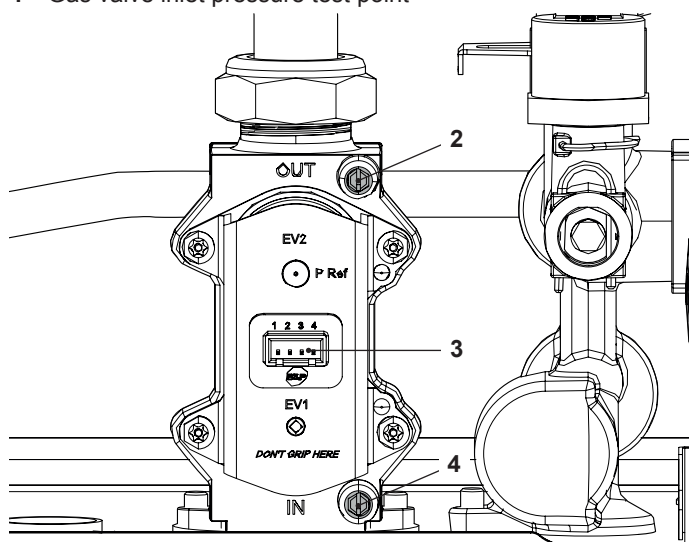
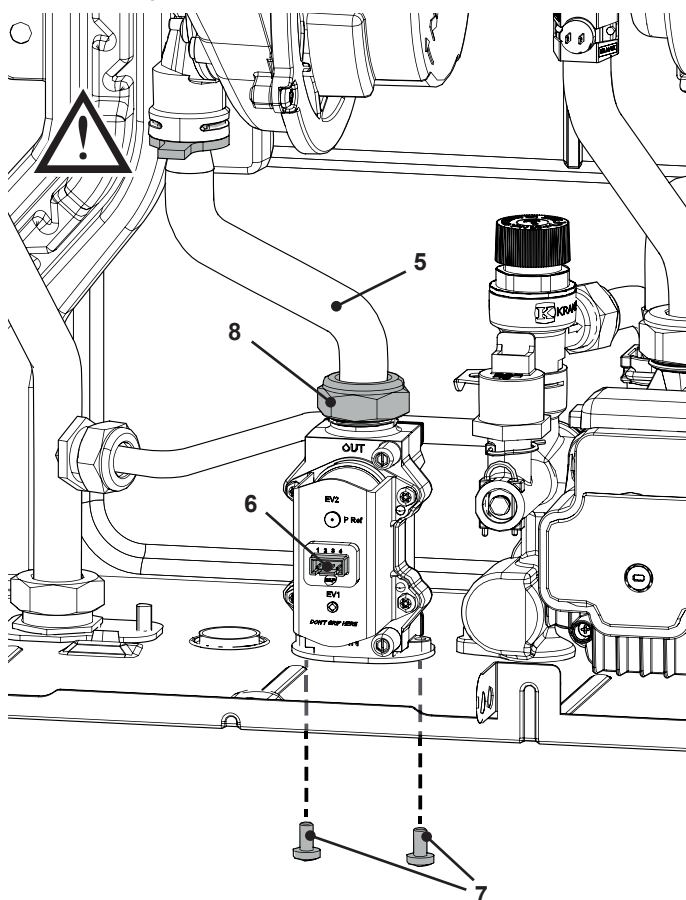

Figure 9.2
Figure 9.15
(Figure 9.2)
- 3 Loosen the internal screw on the Inlet Pressure Test Point "4" (Figure 9.2) of the Gas valve and connect a pressure gauge using a suitable hose.
- 7 Disconnect the pressure gauge and close the Inlet Pressure Test Point "4" (Figure 9.2).
- 2 Disconnect the electrical connector "3" (Figure 9.2).
- 2 Disconnect the connector "6" (Figure 9.15), see also connector "3" (Figure 9.2).
- 4 Unscrew the connector "8" (Figure 9.15) and remove the pipe "5".
- 5 Unscrew the screws "7" and remove the valve (Figure 9.15).